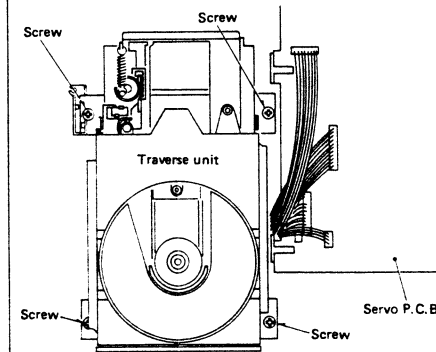

Fig. 12
4. Remove the 4 traverse unit setscrews. (Fig. 12)